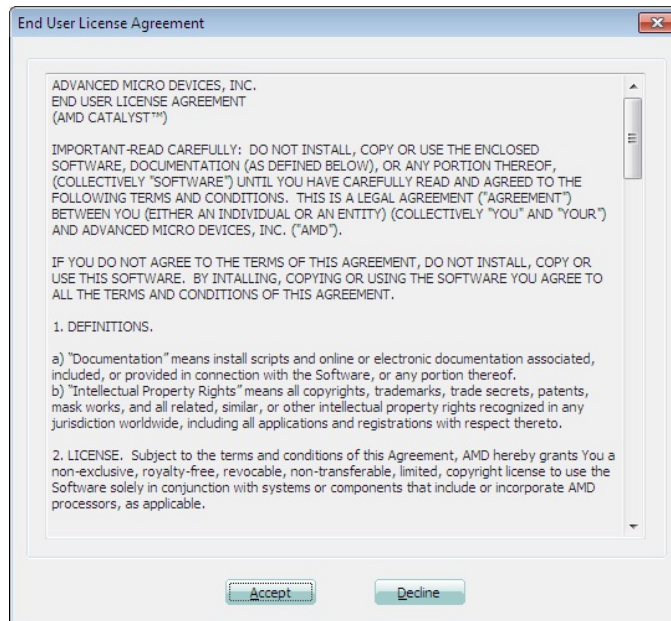

Figure 6-4: Graphics Driver License Agreement
Step 8: The license agreement in **Figure 6-4** appears.